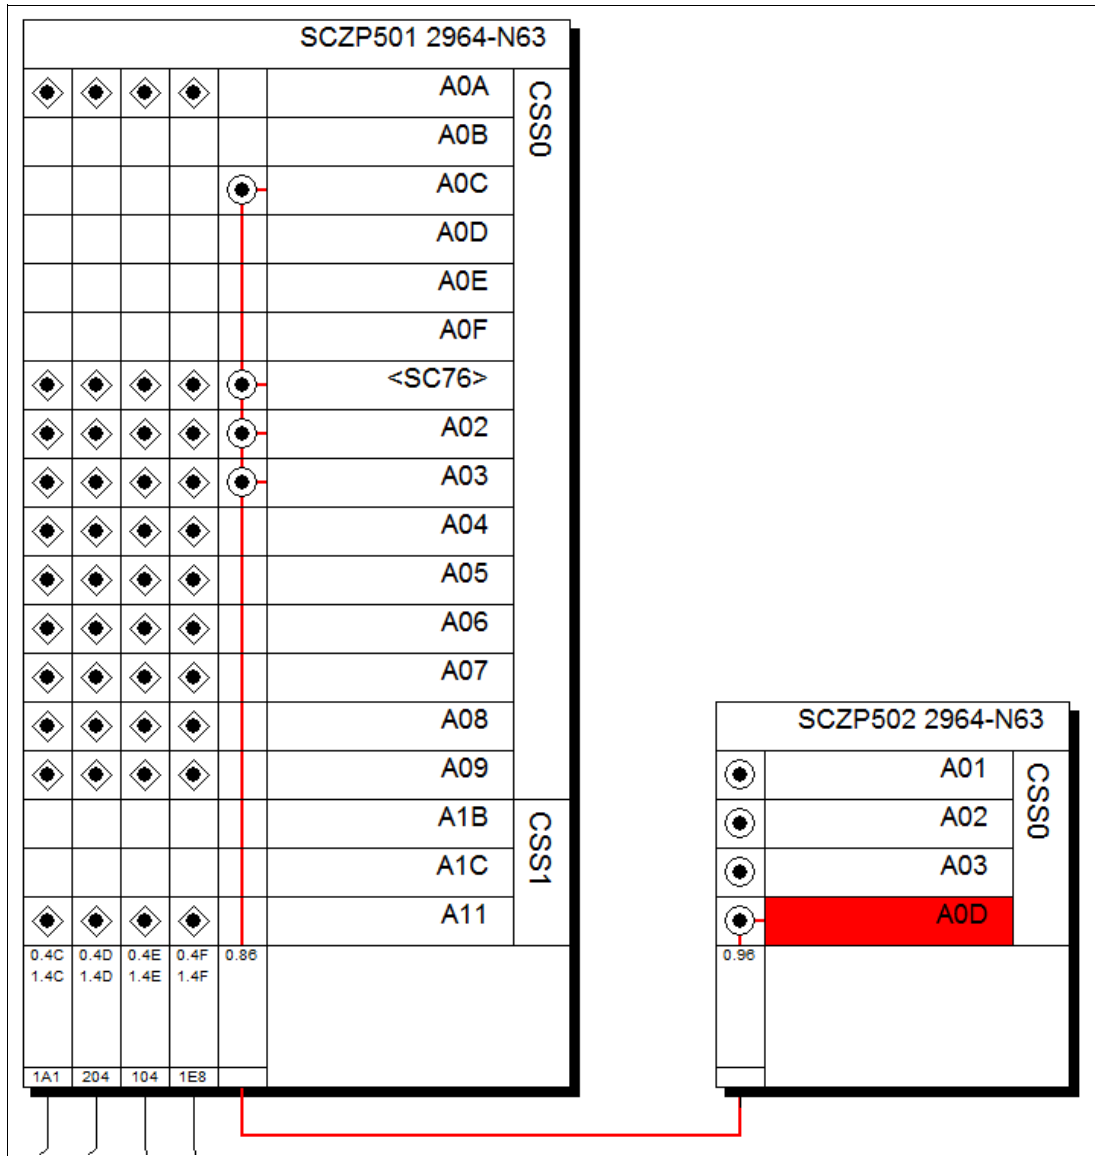

Figure 6-33 HCM - Viewing the CS5 CF link graphically
21.The CF link is now created. To view it, select the **Locate** → **CF connection** HCM menu option or click one of the CPC CHPID definitions and press F4. See Figure 6-33 on page 280.